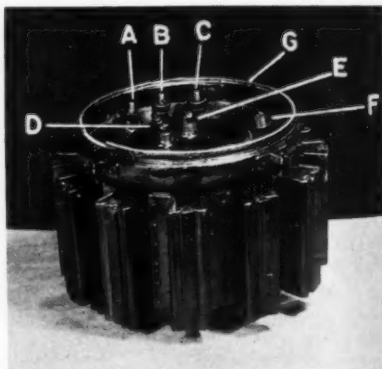

FIG. 1—BOTTOM VIEW OF DOME.
The Frigidaire hermetic is perhaps the most simple, most easily repaired unit of any hermetic type. In addition, the sealed unit dome, Figure 1, containing the motor and compressor is so small that it can be easily handled while opening without any special equipment.
**Compressor.**—The compressor dome shown in Figure 1 contains a split-phase motor and a rotary type compressor which are directly connected. Several sizes of motors are used and the motor h. p. is usually marked on the name-plate of the unit located at the top of the condenser. The motor rotor carries an eccentric, around which an impeller is fitted. The suction and discharge chambers of the compressor are separated by a divider block which is held against the impeller by the pressure of springs. The divider block moves in the slot of a stationary cylinder. A flapper type discharge valve is located on the top of the cylinder block. The motor and compressor operate in the vertical position within a welded steel casing. This casing contains a number of radiating fins which serve to keep the temperature of the compressor within an